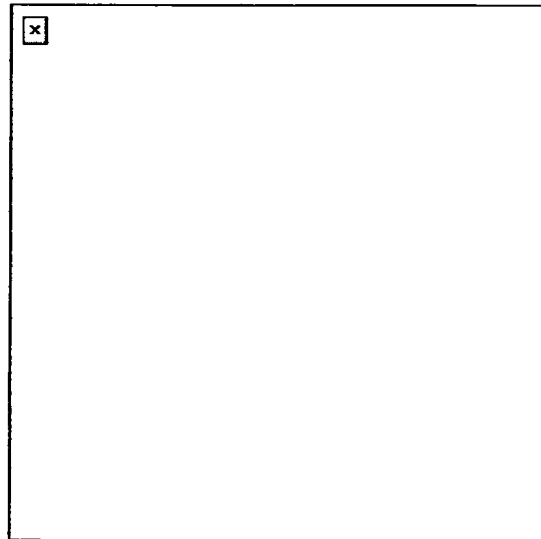

Figure 191-376-0002-3
- (7) Place a single line through a word if a mistake is made and noticed while the statement is being typed, enter the correct information, and leave a space for the initials of the person making the statement.
- m. Complete the last page of the statement heading as in paragraph 1i(5)(a) and (b). Refer to Figure 191-376-0002-3.
- n. Complete the affidavit block. Refer to Figure 191-376-0002-3.
- (1) Print or type the person's first name, middle initial, and last name.
- (2) Enter the total number of pages used to complete the statement on the second line.
- (3) Have the person making the statement initial at the bottom of each page.
- (4) Complete the page count on the last page of the statement. Ensure that each blank contains the same number, such as 2 of 2 or 3 of 3.